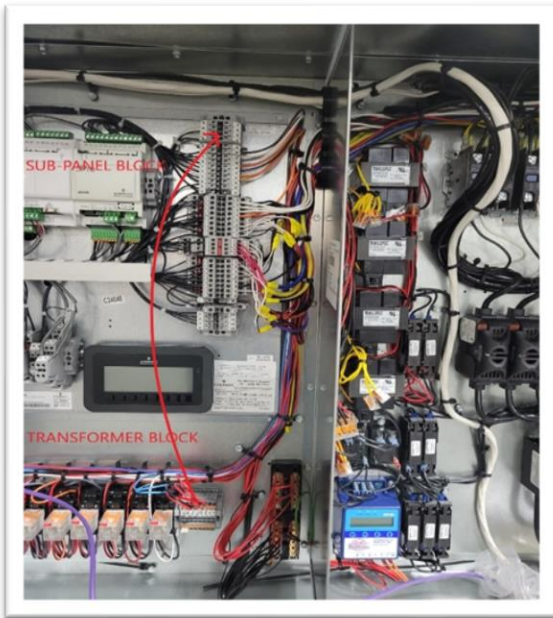

Figure 1. Sub-Panel & Transformer Blocks
3. Locate the subpanel and transformer terminal blocks (see figure 1). Points on the blocks should be numbered 41, 42, 43, and 44.